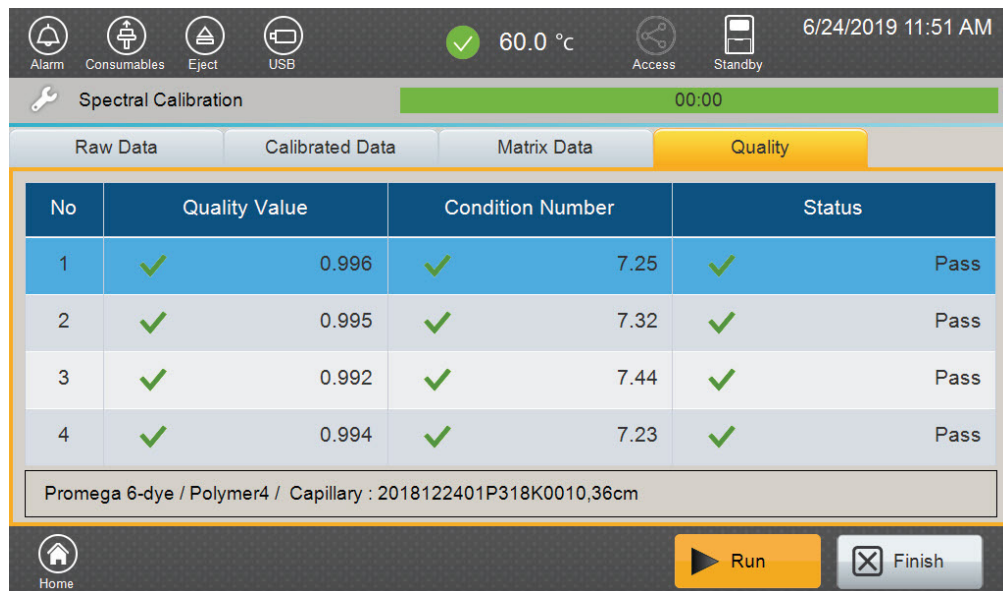

Figure 27. Spectral Calibration 'Quality' tab' screen.
4. Review the quality of the spectral calibration by selecting the 'Quality' tab (Figure 27).